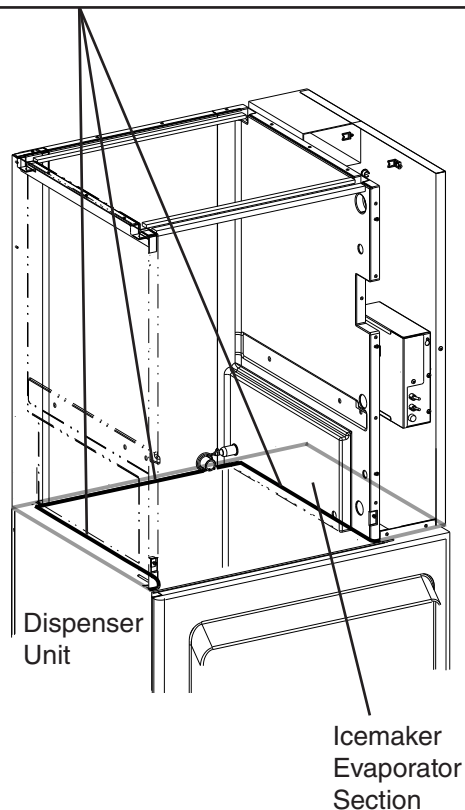

Fig. 9
- 7) **Dispenser Unit:** Seal the inner perimeter of the icemaker evaporator section to the dispenser unit adapter kit with RTV-748 sealant (provided) or equivalent. See Fig. 9. Make sure the inner perimeter sealant meets the outer perimeter sealant and that there are no gaps.